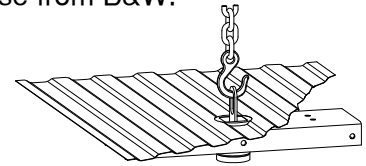

Figure A1.
7. **Prepare a lifting device (optional).** The purpose of the device is to safely hold the hitch in position during part of the installation. See Figure A1 for an example. A simple mechanical lifting device is available for purchase from B&W.